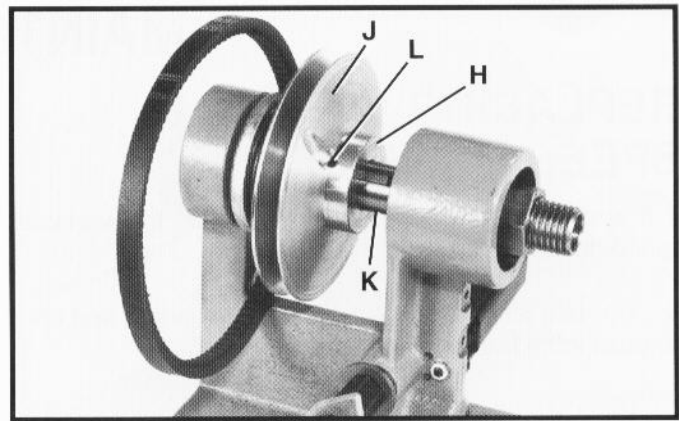

Fig. 97
8. Indicate the location of the spindle pulley hub (H), Fig. 97, on spindle (K) using a pencil. Then loosen set screw (L) and move spindle pulley half (J) to the left as shown and retighten set screw (L). **CAUTION: CARE MUST BE TAKEN TO HOLD PULLEY HALF (J) TO THE LEFT WHEN LOOSENING SCREW (L) AS THERE IS CONSIDERABLE SPRING PRESSURE, WHICH WILL MOVE THE PULLEY HALVES TO THE RIGHT.**